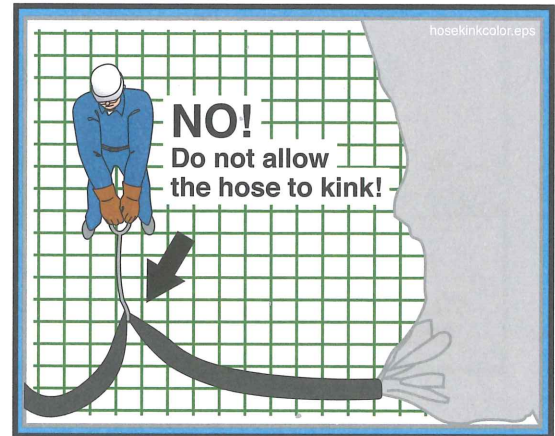

Figure 53
15.9 **⚠️ WARNING** Do not kink the end hose. Kinking will cause the pump to create maximum concrete pressure. The pump may unkink the hose by force! (See Figure 53.)